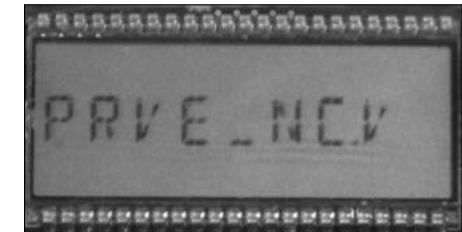

Figure 14.11 - LCD screen changes to PRVE_NC.V
- C. Hold the magnet for about five seconds on the word **"swipe"** next to the LCD screen display until the display changes to **PRVE_NC.V** (Figure 14.11).